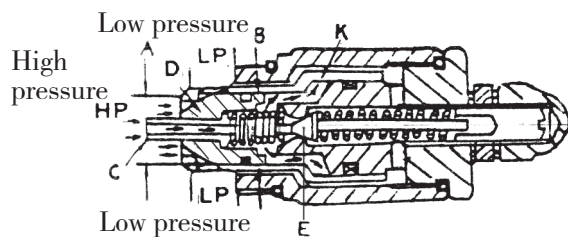

Fig.7.5
(1) The relief valve is mounted between the cylinder port “HP” and the low-pressure passage “LP”. The oil flows through the poppet “C” and affects the two areas “A” and “B” differently in diameter, so that the check valve poppet “K” and the relief valve poppet “D” are securely seated. (See Fig.7.5)